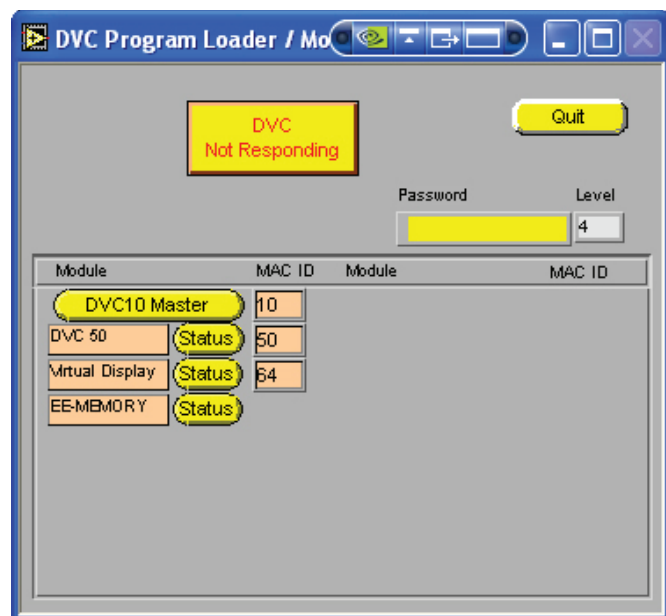

Figure 3-28
3. Within the PLM, select the DVC10 MASTER switch to open the Main DVC10 screen. Reference Figure 3-28 below.
11. On the Main screen, Figure 3-28, enter the word "victory" into the password field. The password level should change to 4.
1. Within the PLM, select the DVC10 MASTER switch to open the Main DVC10 Screen. Reference Figure 3-28.